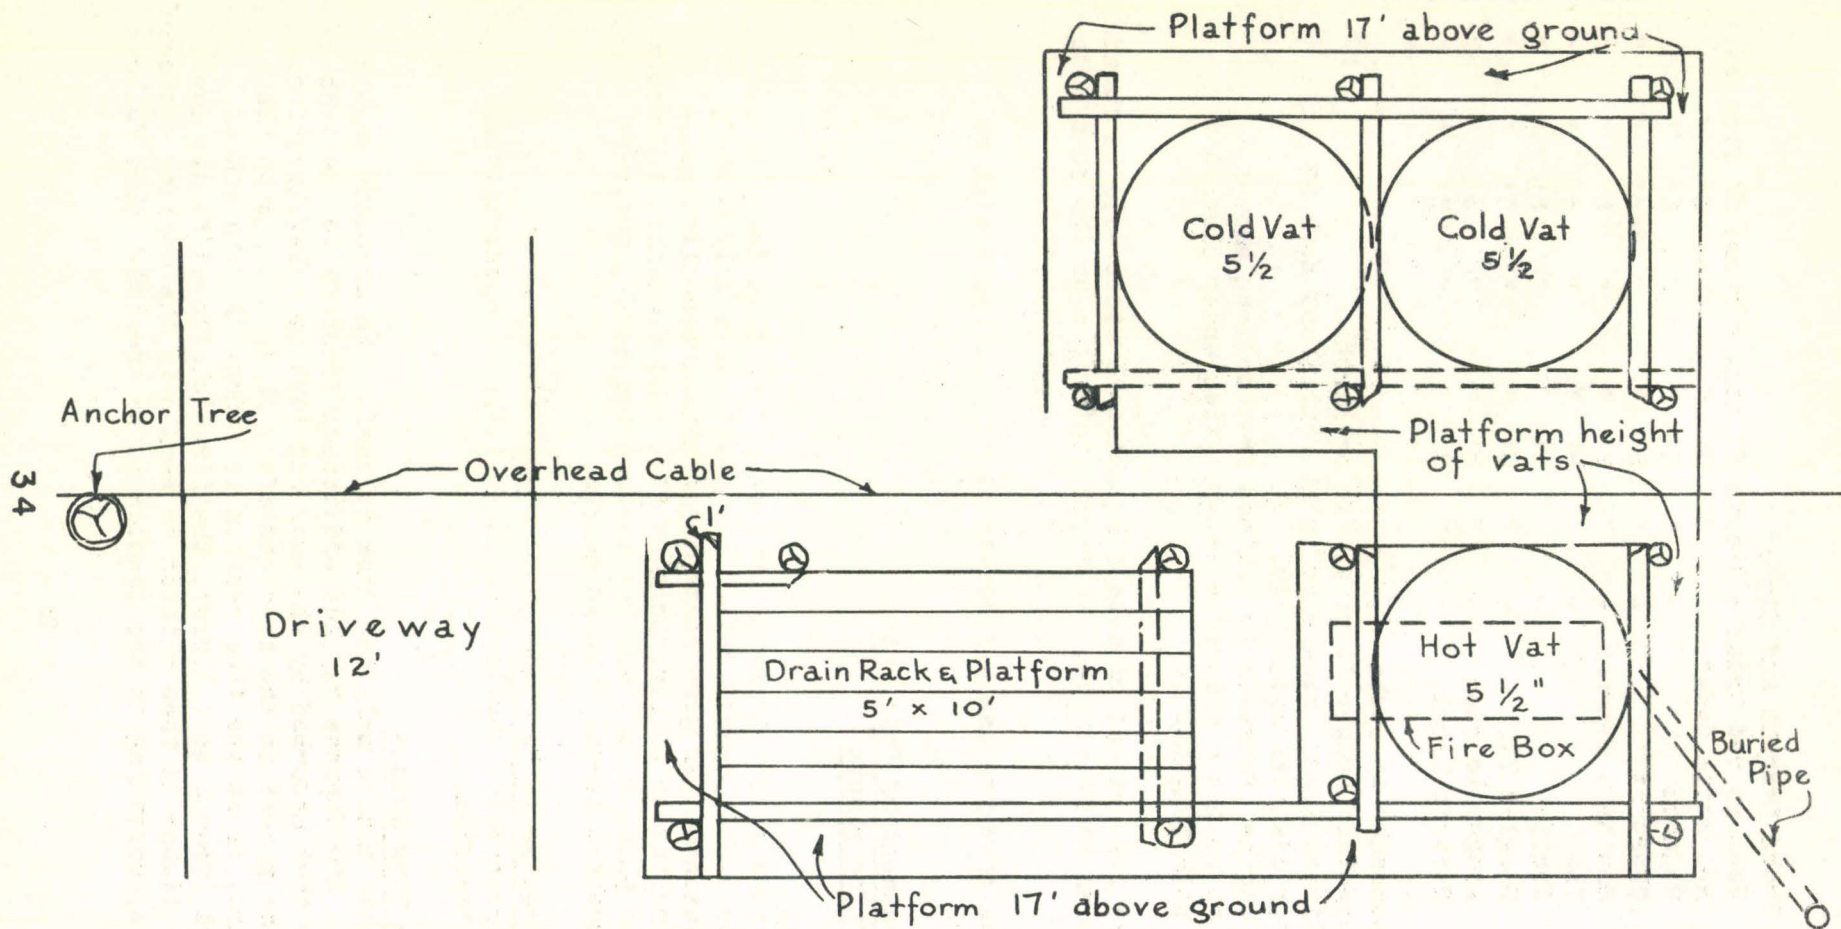

FIGURE 15
1. Pole Species and Treatment: Poles which comply with the specifications for Class A construction may be used if obtainable at a reasonable cost. Any other species may be used with or without treatment, if local experience has demonstrated that it will have the average life required. Poles must be of sound timber and reasonably straight, cut locally as near the job as possible. Thoroughly seasoned lodgepole pine poles conforming to A.S.A. specification 05f1 and 05f2 - 1933 with a full length 8 pound empty cell creosote treatment at a commercial plant or butt treated with creosote at a Forest Service treating plant may be used. See figure 15.
Care should be exercised that the creosote in the tank remains at about the same level, so that a penetration will always be secured for the required length. Treatment should extend at least 1 foot above ground line. The poles should then be removed from the tank and allowed to drain. The surface creosote will drain off the poles better if the oil in the cooling tank is slightly heated prior to the removal of the poles. See Figures 15, 16 and 17 for suggestions for design of plant.